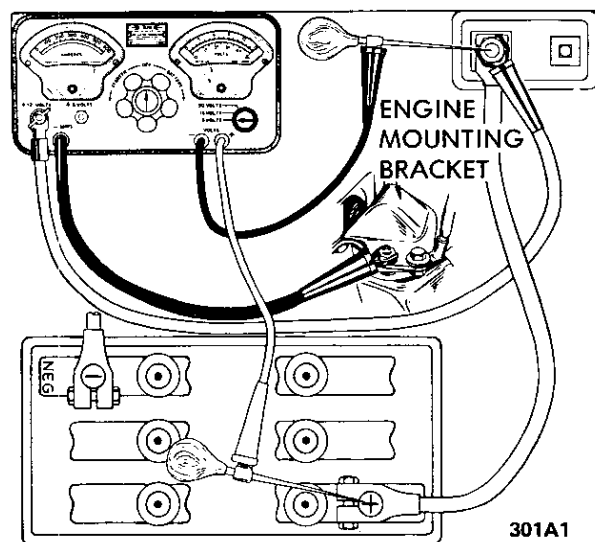

Figure 1A-1 Battery Cable Test Connections
2. Connect ammeter positive lead to post on starting motor. Connect ammeter negative lead to one side of rheostat and connect other side of rheostat to ground on engine, preferably at point where battery ground strap is attached. In the instrument shown in Figure 1A-1, the ammeter and rheostat are connected in series inside the case.
3. Connect voltmeter negative lead to post on starting motor. Use prod with voltmeter lead, if necessary, to insure direct contact with the terminal stud. Do not connect to the ammeter lead clip. Attach a prod to voltmeter positive lead and apply the prod to center of battery positive post (Figure 1A-1.) Make sure that clips of voltmeter leads have clean metal contact with prods.